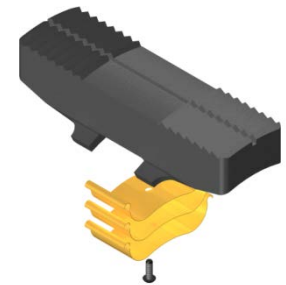

Fig. 3
**NOTE4:** Uses three (3 ea) springs per slip (Fig. 3).